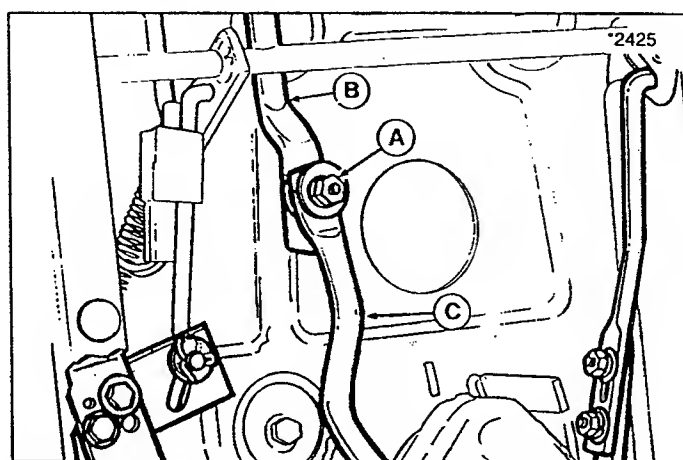

Figure 27. Neutral Adjustment - Hydro Models
On hydro models, see figure 27. Loosen the nut (A) that secures the front control rod (B) to the rear control rod (C). Control rod must move freely. Move the ground speed control lever into the neutral gate and tighten nut (A) securely to 17 ft. lbs. Perform the following Return-To-Neutral Adjustment procedure.
Perform this adjustment if the ground speed control lever does not return to the neutral gate from forward when the clutch/brake pedal is fully depressed. Make sure the hydro control rod (B, figure 27) is lubricated and does not bind in the carrier frame hole.